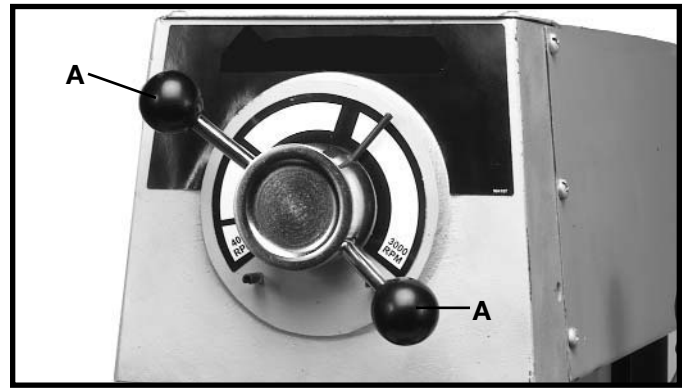

Fig. 24
**IMPORTANT:** To avoid damaging the drive belts and pulleys, **DO NOT** turn speed control handles (A) Fig. 24, unless motor is running. The pilot wheel handles (A) are turned clockwise to increase speed and counterclockwise to decrease speed. The speed range is 500 rpm to 3100 rpm.